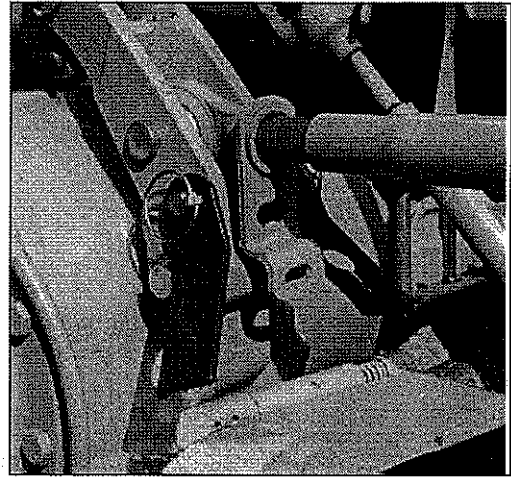

figure 1
If this implement is attached to a tractor with a clevis hitch (hammer-strap) style drawbar, the hammer-strap must be removed to prevent damage to the IID guarding and the IID telescoping members. [See Figure 1]
3. Pin 2 keyhole plates to the tractor topline with pins from the tractor (figure 1).